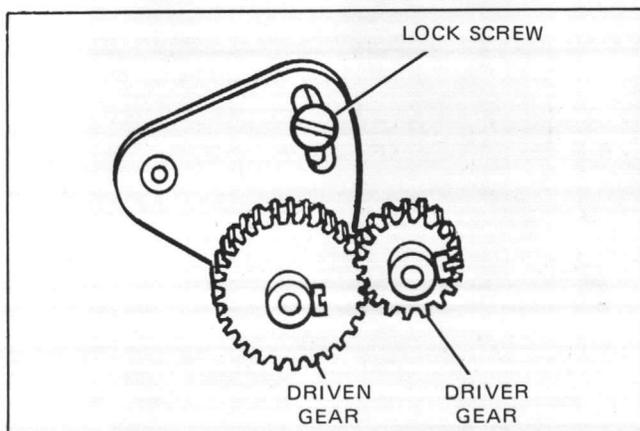

Figure 5-4. Change Gears
b. Check the number of teeth on the driven and driver change gears on the rear of the gear plate (See Figure 5-4). The gears are stamped with the number of teeth.